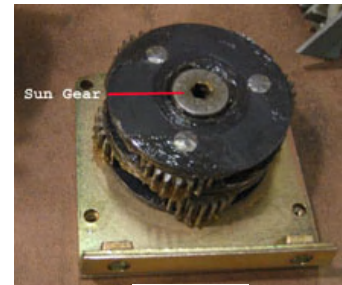

Fig. 2
4. Remove the Sun Gear (the small gear inside the larger planetary gears), and replace it with the new Sun Gear. [See Fig. 2]